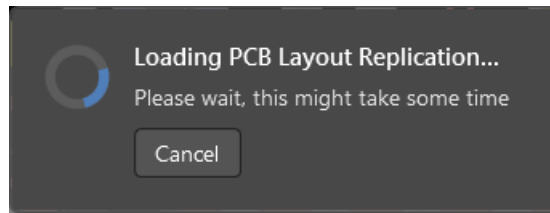

Figure 10. PCB Replication preparation
27. Wait until the tool prepares the *PCB Layout Replication* dialog, Figure 10.